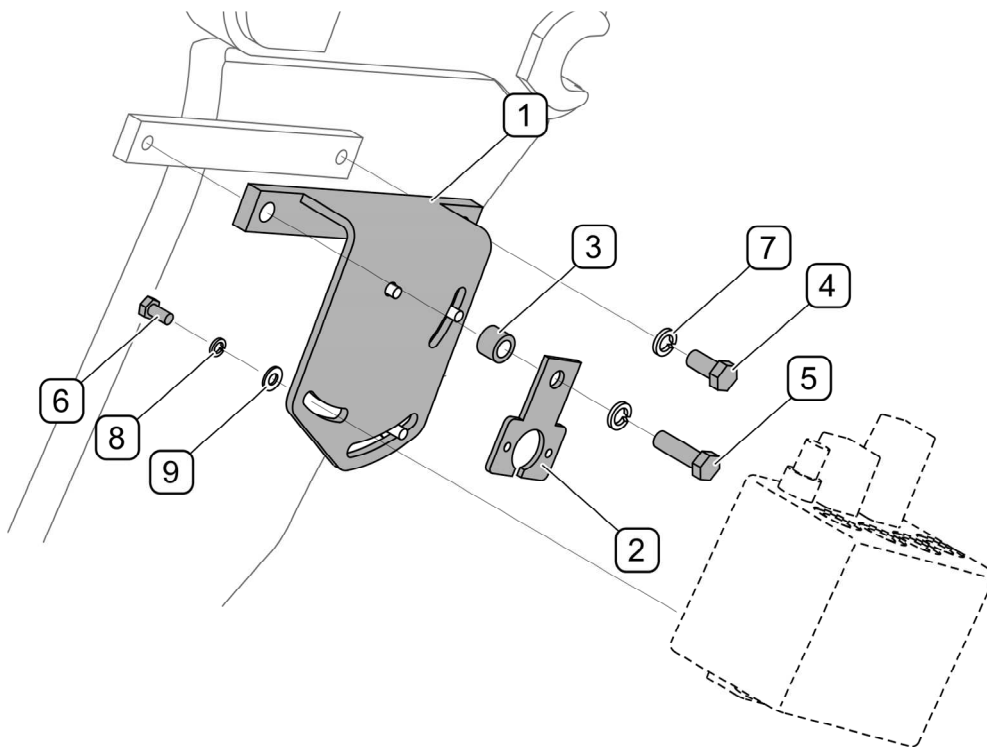

FIGURE 4.4 Mounting the manifold bracket to the support frame
- (1) - manifold bracket;
- (2) - electric socket bracket;
- (3) - sleeve;
- (4) - M12x25 bolt;
- (5) - M12x40 bolt;
- (6) - M8x16 bolt;
- (7) - Z12,2 spring washer;
- (8) - Z8,2 spring washer;
- (9) - 8-100HV washer;
Secure a hydraulic manifold to bracket (1), then screw it down in appropriate place on the right side to the loader support frame, together with electric socket bracket (FIGURE 4.4). Install sleeve (3) between brackets (1) and (2).